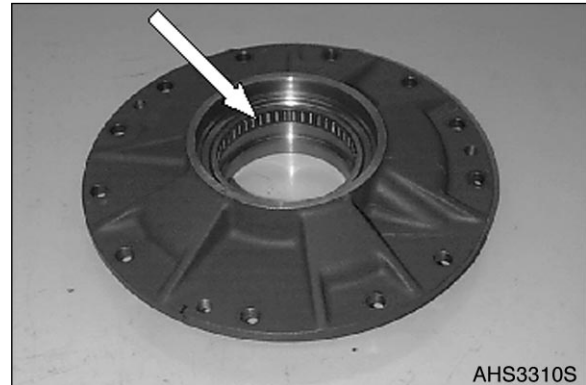

Figure 383
8. Insert needle sleeve (Figure 383), with the reinforced shell facing the pressing-in tool until contact is obtained.